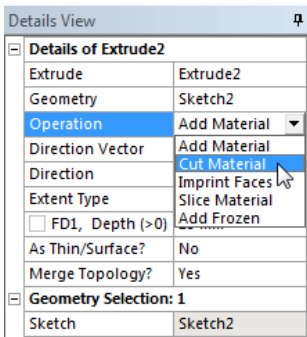

Figure 3-44 Selecting the **Cut Material** option from the **Operation** drop-down list
- 24. Select the **Cut Material** option from the **Operation** drop-down list in the **Details View** window, refer to Figure 3-44; the preview of the material to be removed from the existing base feature is displayed in the **Graphics** window.